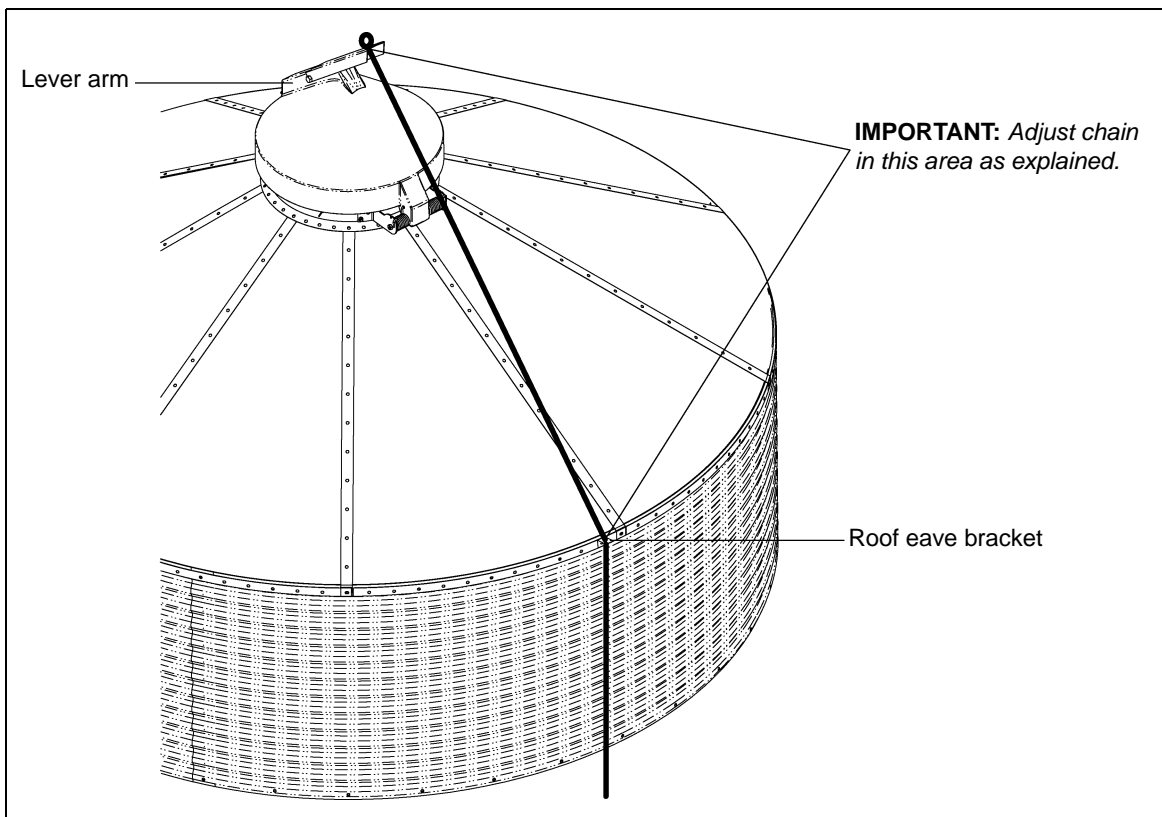
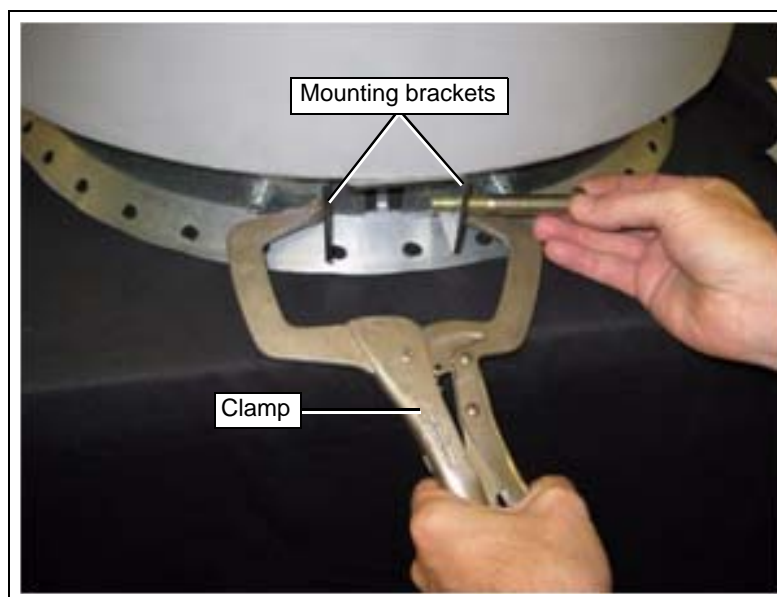
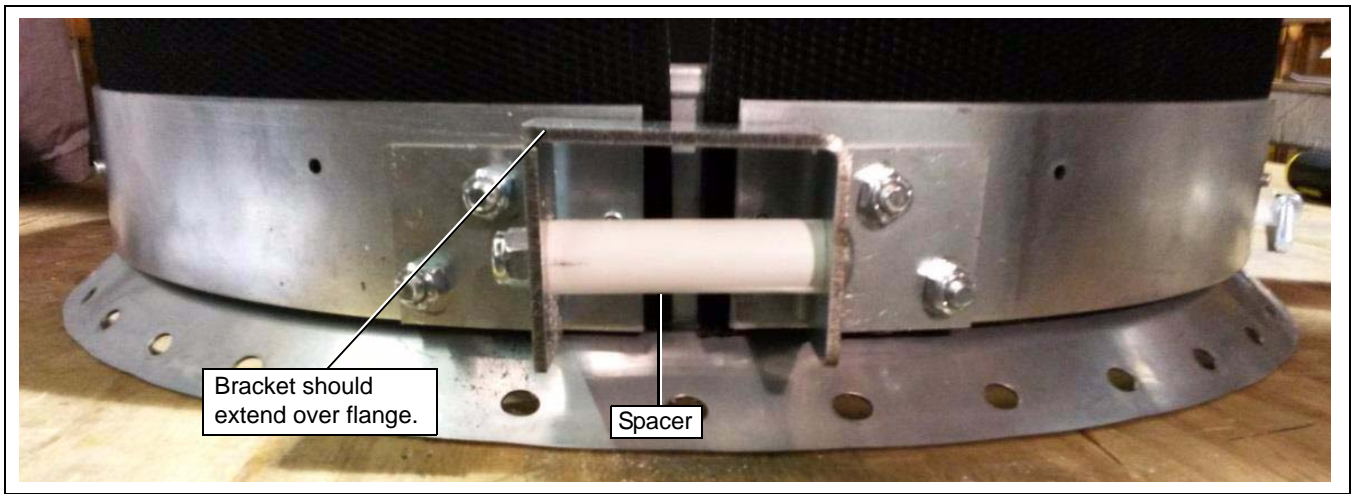

Figure 1
Figure 6 Mount Lid to Peak Ring
Figure 7 Tighten Bolts Until Flush with Bracket
NOTE: If there was no previous chain, roof eave bracket or chain holder bracket, a chain will need to be purchased and the brackets included will need to be attached to the side of the bin, vertically aligned with the lever arm. (See Figure 1.)
3. Place the new lid assembly over the existing peak ring collar and rotate lid assembly such that the lever arm and spring hinge line up with the roof eave bracket. (See Figure 1 on Page 1.) Use a clamp to pull the mounting brackets together. Slide the carriage bolt through the mounting bracket and then the 2-3/4" spacer and then loosely fasten the nut. (See Figure 6.) Remove clamp and then tighten the bolt with 9/16" ratchet and tighten until flush. (See Figure 7 on Page 4.)